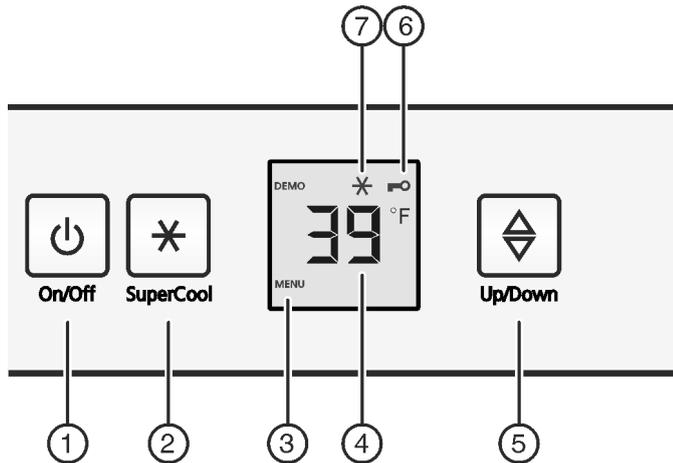

Fig. 3
- ▶ Press the On/Off button Fig. 3 (1).
- ▶ Press and hold the SuperCool button Fig. 3 (2) for approx. 5 seconds.
- ▷ In the display, the Menu Symbol Fig. 3 (3) is displayed.
- ▶ Confirm briefly by pressing the SuperCool button Fig. 3 (2).
- ▷ The Child Safety symbol Fig. 3 (6) lights up on the display.
- ▶ Press the On/Off button Fig. 3 (1) briefly.
- ▶ Call up the temperature function: Press the Set button *Fig. 3 (5)*.
- ▶ Changing the temperature in 1 °F (1 °C) intervals: Press the Set button *Fig. 3 (5)* until the desired temperature appears in the temperature display.
- ▶ Briefly press the SuperCool button *Fig. 3 (2)*.
- ▷ The SuperCool symbol *Fig. 3 (7)* lights up in the display.
- ▷ The SuperCool symbol *Fig. 3 (7)* goes out in the display.